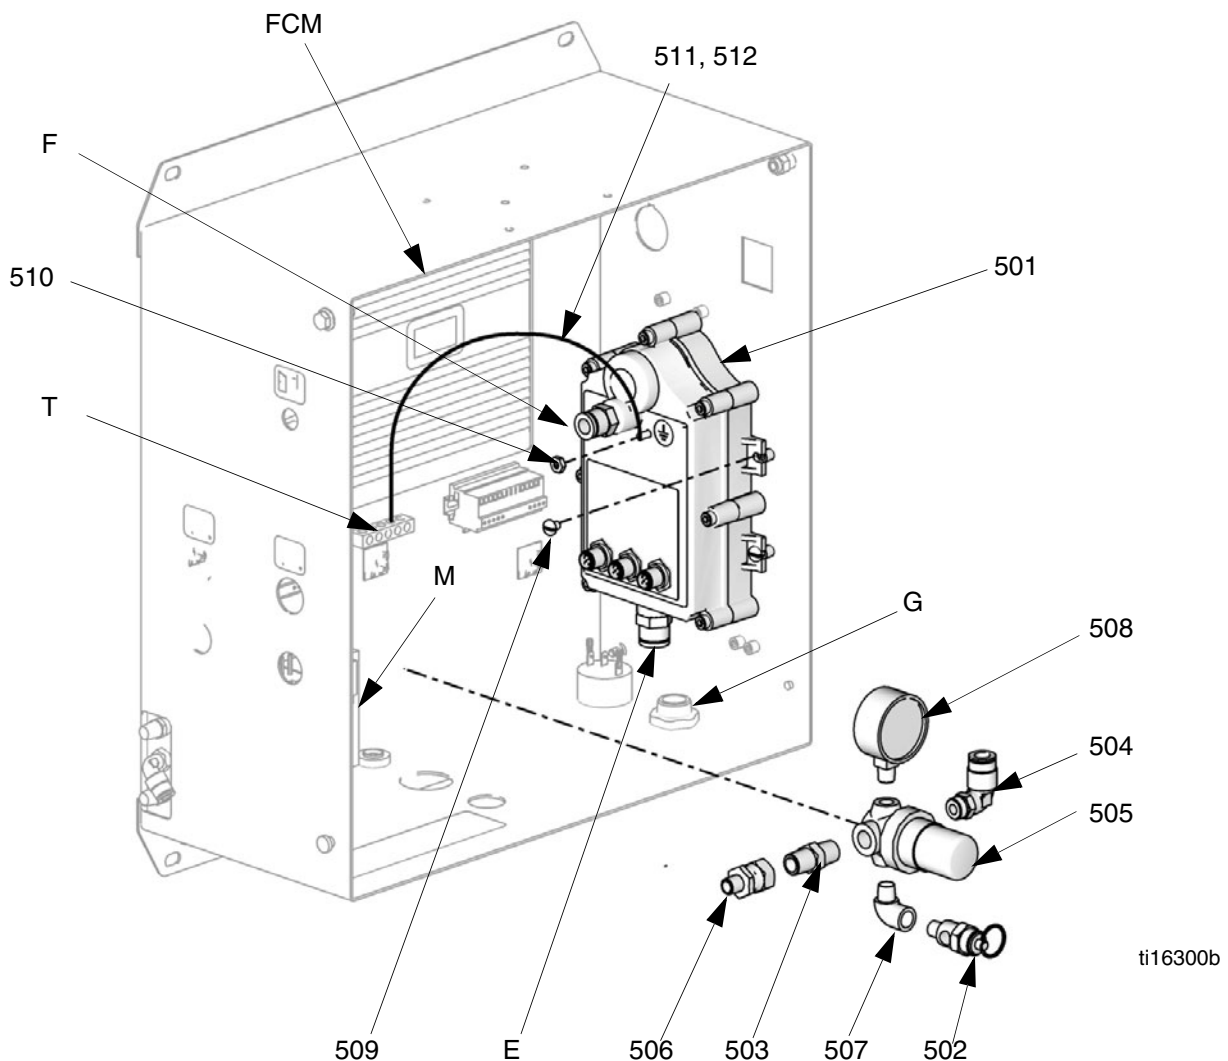

FIG. 3. Install Alternator Components
1. See FIG. 3. Mount the alternator module (501) to the control box using four screws (509).
2. Connect the alternator ground wire (511) to the control box ground terminal (T), using ferrule (512).
1. Remove the plug from the solenoid manifold (M). Screw the swivel union (506) into the manifold. See FIG. 3.
2. Assemble the air regulator gauge (508), fittings (503, 504, 507), and safety valve (502) to the regulator (505).
3. Screw the swivel union (506) onto the nipple (503) to secure the air regulator assembly to the solenoid manifold (M).
4. Connect the 3/8 in. (10 mm) OD air tube (514) between the elbow (504) of the air regulator assembly and the alternator air inlet fitting (F).
5. Connect the 1/2 in. (13 mm) OD air exhaust tube (513) to the alternator air exhaust fitting (E). Extend the tube out the bottom of the control box through port (G).